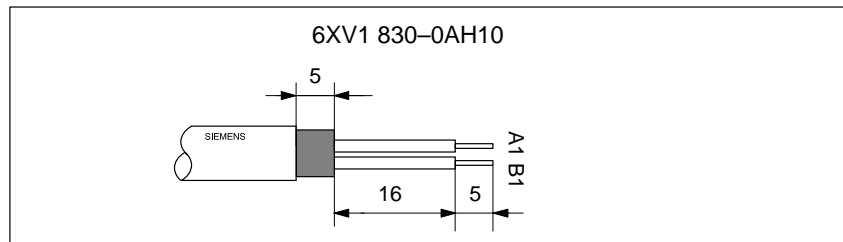

Figure 3-14 Length of stripped ends for connection to bus connector (6ES7 972-0B.40 ...)
1. Strip the ends of the cable conductors as shown in Fig. 3-14.